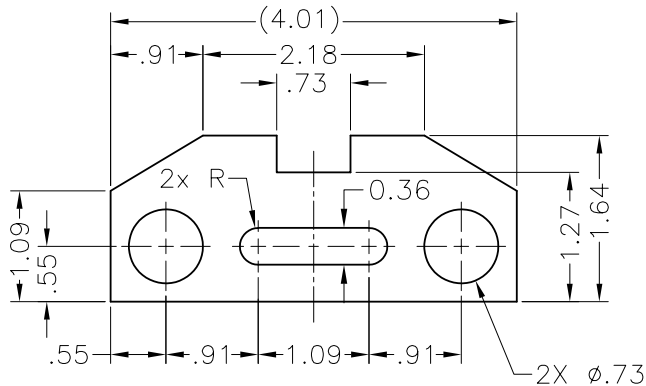
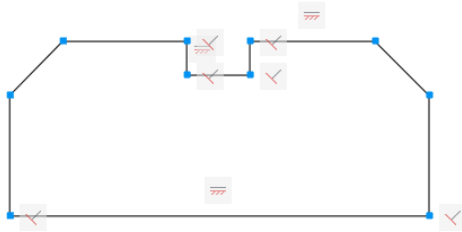

Figure 1-7 Sketch for Example 1
Figure 1-8 Outer loop of the sketch
Draw the sketch shown in Figure 1-7 and apply appropriate constraints to it. Do not dimension the sketch.
2. Ensure that the **Infer Constraints** button is chosen in the Status Bar. By using the **Line** tool, draw the outer profile similar to that shown in Figure 1-7. Make sure that the endpoints are snapped so that they form a closed sketch, as shown in Figure 1-8. Note that in your drawing, the constraints applied by default may be different from that shown in Figure 1-8, as it depends upon the start point and the procedure used to draw the lines.
Next, you need to create the inner loop using the **Arc**, **Circle**, and **Line** tools at an arbitrary location. But the profile should be similar to that given in Figure 1-7. Next, you need to apply the constraints.